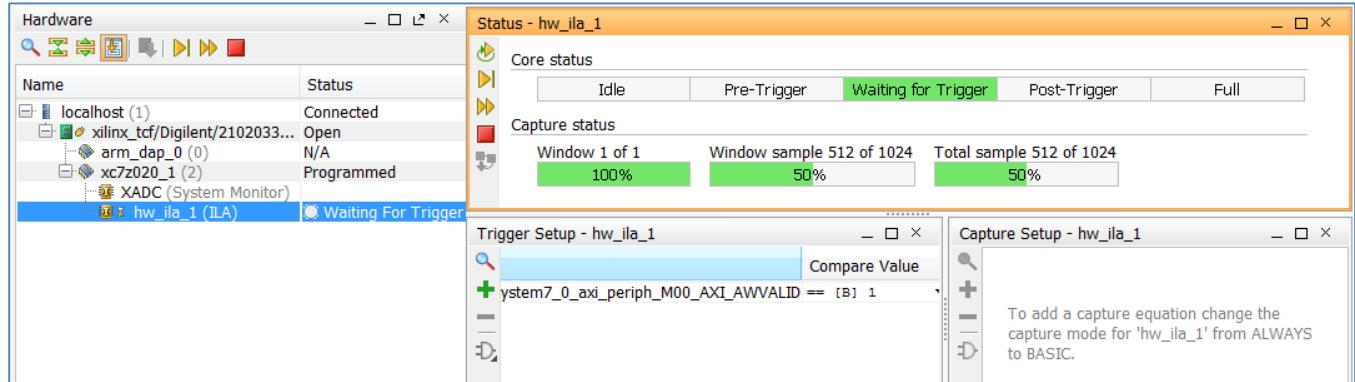

Figure 49: Status of `hw_ila_1`
- Likewise, the Hardware window shows the Core Status as **Waiting for Trigger**, as shown in Figure 49.